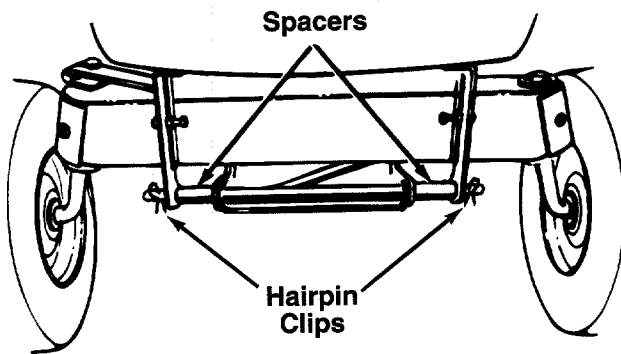

FIGURE 15.
- Disassemble the front cross bar from the tractor by removing two hairpin clips. Use the cross bar to attach the deck stabilizers, the diagonal brace and two spacers to the tractor frame, using the forward set of holes. Secure with the two hairpin clips just removed. See figure 15.